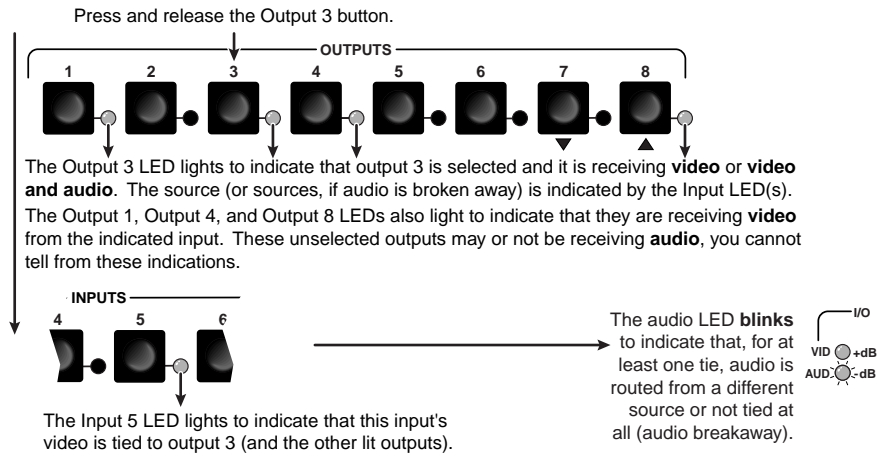

Figure 3-24 — Select an output
2. Press and release the Output 3 button (figure 3-24).